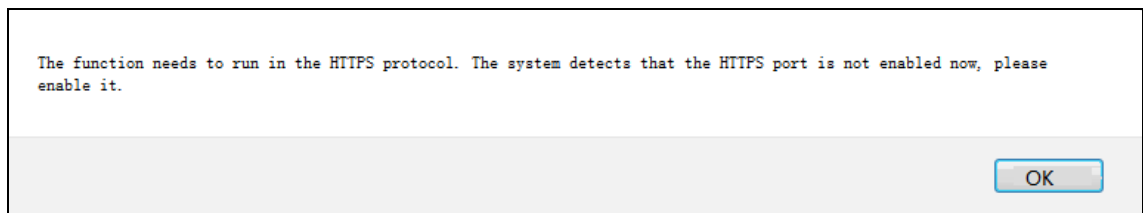

Figure 4-75
Step 1 Click "Import Config" or "Export Config" in http environment. The system pops up Figure 4-75.